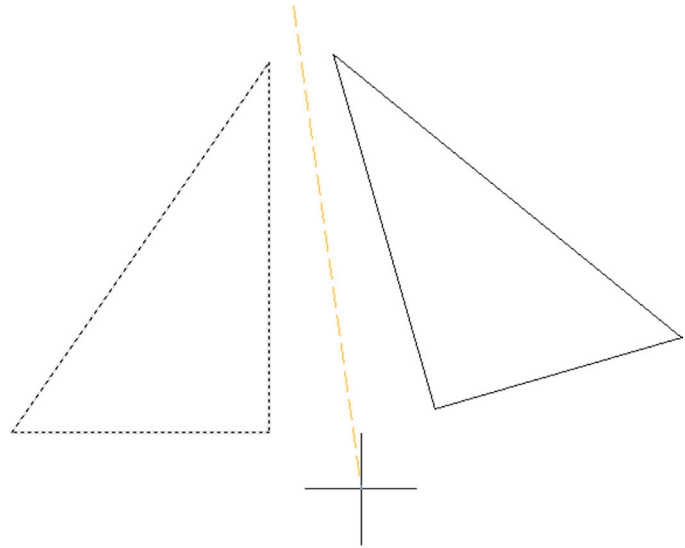

FIGURE 1.29 Mirror command in progress.
This command, much as the name implies, creates a mirror copy of an object over some plane. It is surprisingly useful, because often just copying and rotating is not sufficient or takes too many steps. To learn this command, you have to think of a real-life mirror, with you standing in front of it. The original object is you, the plane is the door with the mirror attached (which can swing on a hinge), and the new object is your mirrored reflection. To practice this command, draw a triangle by joining three lines together, as seen in Fig. 1.29.
Step 5. The response in Step 4 just asked you if you want to keep the original object. If you do (the most common response), then just press Enter and you are done. Fig. 1.29 illustrates Step 3.